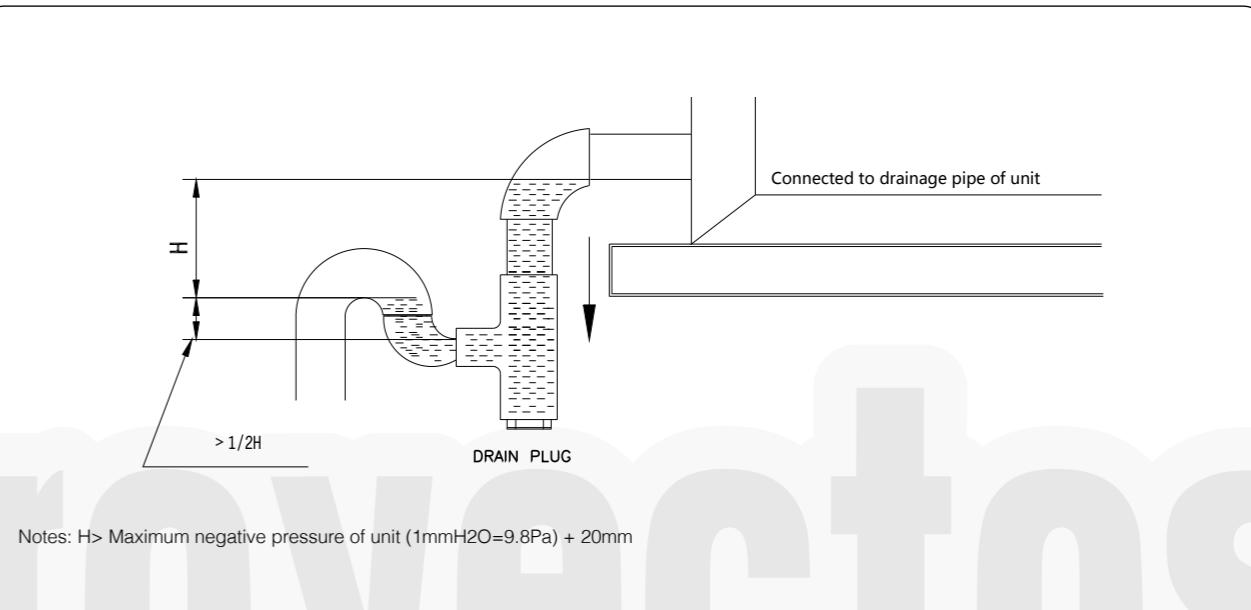

Fig 1 Installation diagram for water seal
- Appropriate water seal should be fitted to ensure the smooth drainage of condensate water during the installation. The installation diagram for water seal is shown in Fig 1.